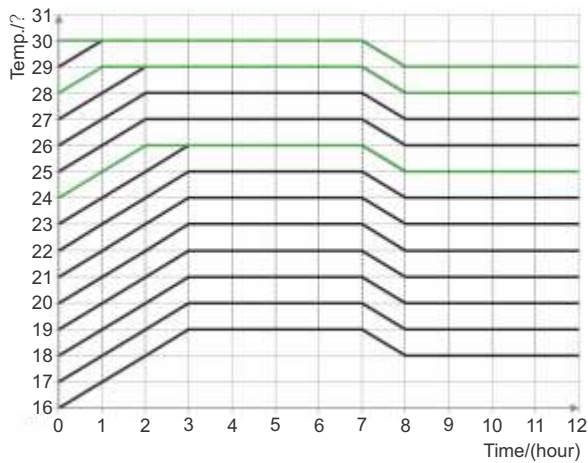

Fig.14 Sleep Curve under the COOL Mode
- ①. The Sleep function is defaulted to be OFF after power recovery.
- ②. The Sleep function is unavailable under the Fan mode.
- ③. When the Quiet function is activated, the Quiet function will always keep ON no matter if the Sleep function is activated or deactivated.
- ④. Under the Cool mode, the Sleep function is ON, the setting temperature range can be 16~23°C, 24~27°C, 28~29°C or 30°C. Each of them has a different curve as shown in Fig.14.